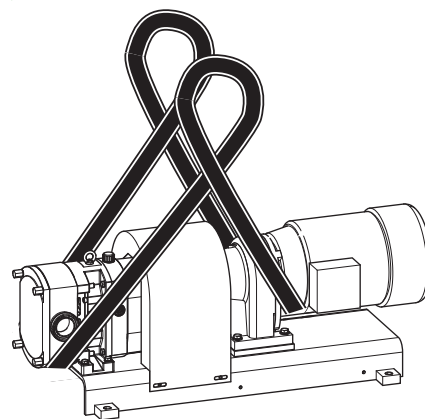

Fig. 13 Moving with round sling illustrated using the FL 100
Wrap the round sling around the gear motor; see Fig. 13, "Moving with round sling illustrated using the FL 100," page 10.
2. Wrap the other end of the round sling around the pump casing; see Fig. 13, "Moving with round sling illustrated using the FL 100," page 10.